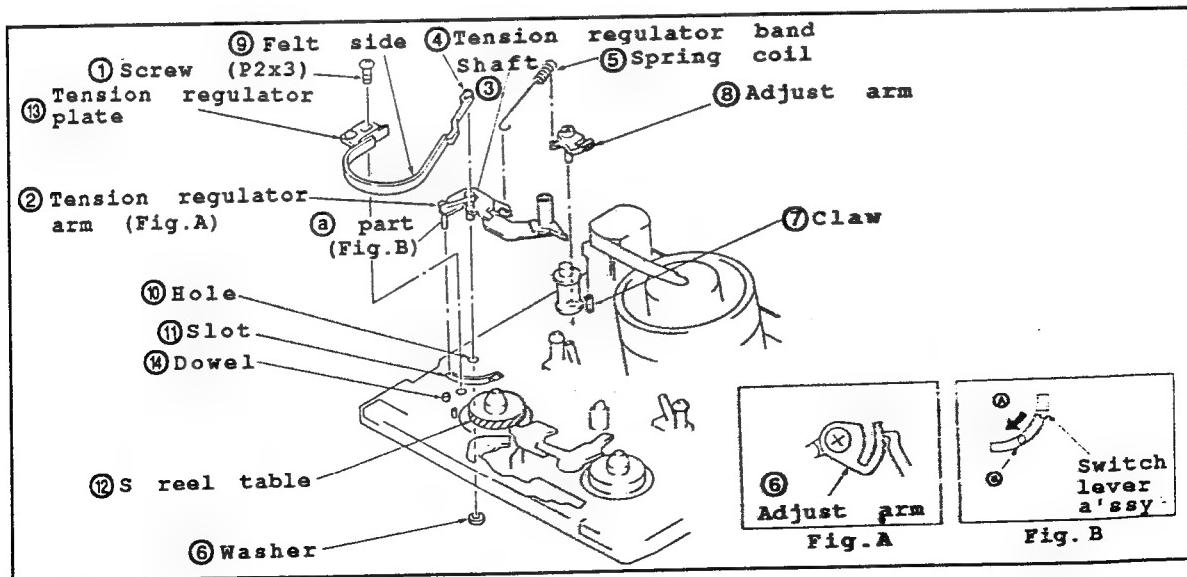

Fig.II-18
- Disassembling (Fig.II-18)
- (1) In the same procedures in "3-5", detach the TL plate.
- (2) Remove the screw ①.
- (3) Take off the tension regulator band from the shaft ③ of tension regulator arm ② by using a thin screwdriver or equivalent.
- (4) Remove the spring coil ⑤.
- (5) Remove the washer ⑥ from the rear side of mechanical chassis. Then, detach the tension regulator arm ②.
- (6) To detach the adjust arm ⑧, unhook the claw ⑦.
*Note: When detaching the tension regulator band ④, be careful not to twist or fold it. Also, when detaching it, do not touch the felt side ⑨ and drop the oil.
- Reassembling (Fig.II-18)
- (1) Mesh the adjust arm ⑧ with the position indicated in the Fig. A, then, hook the claw ⑦.
- (2) Apply the 1/2 drop of oil to the hole ⑩.
- (3) Attach the tension regulator arm ② to the slot ⑪ while inserting ② part inside of switch lever a'ssy. (② indicated by an arrow.) (Fig.B)
- (4) While pressing the tension regulator arm ② from the front side of chassis, secure it with a washer ⑥ from the rear side.
- (5) Hook the spring coil ⑤ to the adjust arm ⑧ and the tension regulator arm ②, respectively. The direction of coil is as indicated in the Fig.
- (6) Attach the tension regulator band ④ to the shaft ③ of the tension regulator arm ② while fitting the felt side ⑨ onto the shadow area of S reel table ⑫.
- (7) Assemble the tension regulator plate ⑬ of the tension regulator band ④ while aligning it with the dowel ⑭ of chassis. Then, secure it with the screw ①.
- (8) In the same procedures in "3-5", attach the TL plate.
- (9) In the same procedures in "3-21", perform the tension regulator adjustment.
- (10) In the same procedures in "3-22", perform the back tension adjustment.